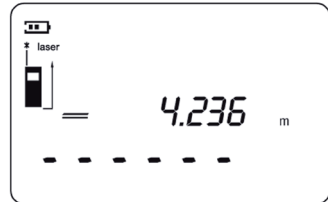

Fig. 6
5. To conduct a second measurement press the Read button again to activate the laser; the first measurement is now displayed in the upper line of the screen (fig. 6).